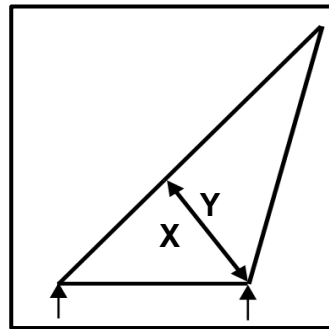

FIGURE 4.7
4.7 Identify the nature of member **XY** in the steel framework shown in FIGURE 4.7 below.